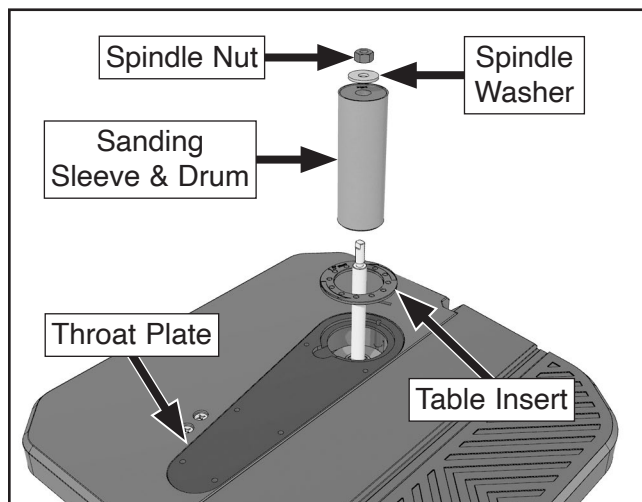

Figure 19. Installation order of spindle sanding components.
6. Place throat plate in table opening, then install desired sanding drum on spindle shaft, followed by corresponding sanding sleeve and table insert (see **Figure 19**).
7. Secure sanding drum with appropriate spindle washer and spindle nut (see **Figure 19**). Tighten nut until sanding drum places slight pressure on sanding sleeve.